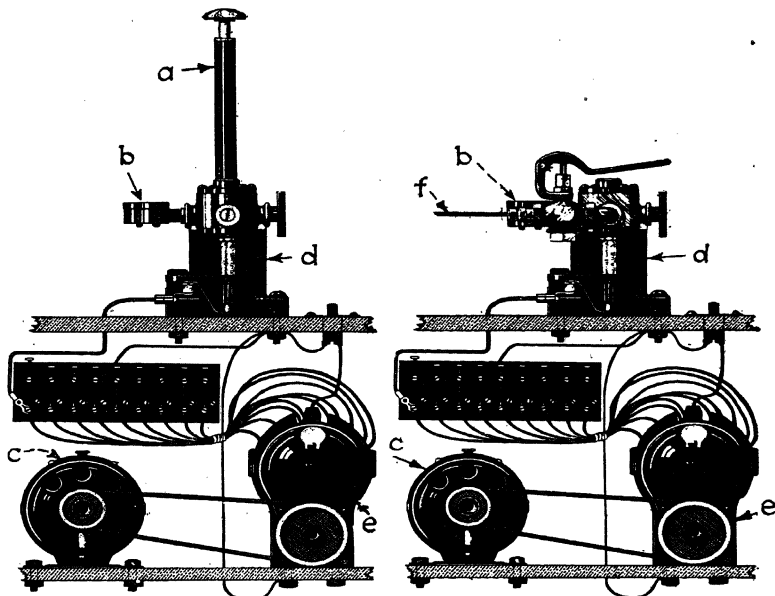

FIG. 14.—Equipment for testing spark plugs.
**Test Equipment.**—A typical test equipment is illustrated in Fig. 14. The valve-type bomb shown is intended for operation with a carbon dioxide or nitrogen gas storage cylinder or compressed air tank. A hand-pump-type test bomb may be substituted where it is not convenient to use carbon dioxide, nitrogen, or compressed air. This latter type bomb incorporates a small